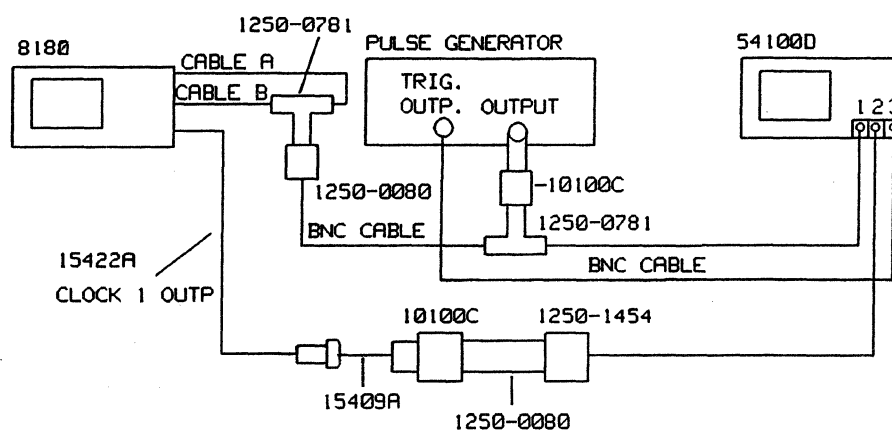

Figure 6-9. Test Setup for the External Input Test
8. Connect the equipment as shown in Figure 6-9 and press RUN. (BNC Cable A connected to External Clock Input.)